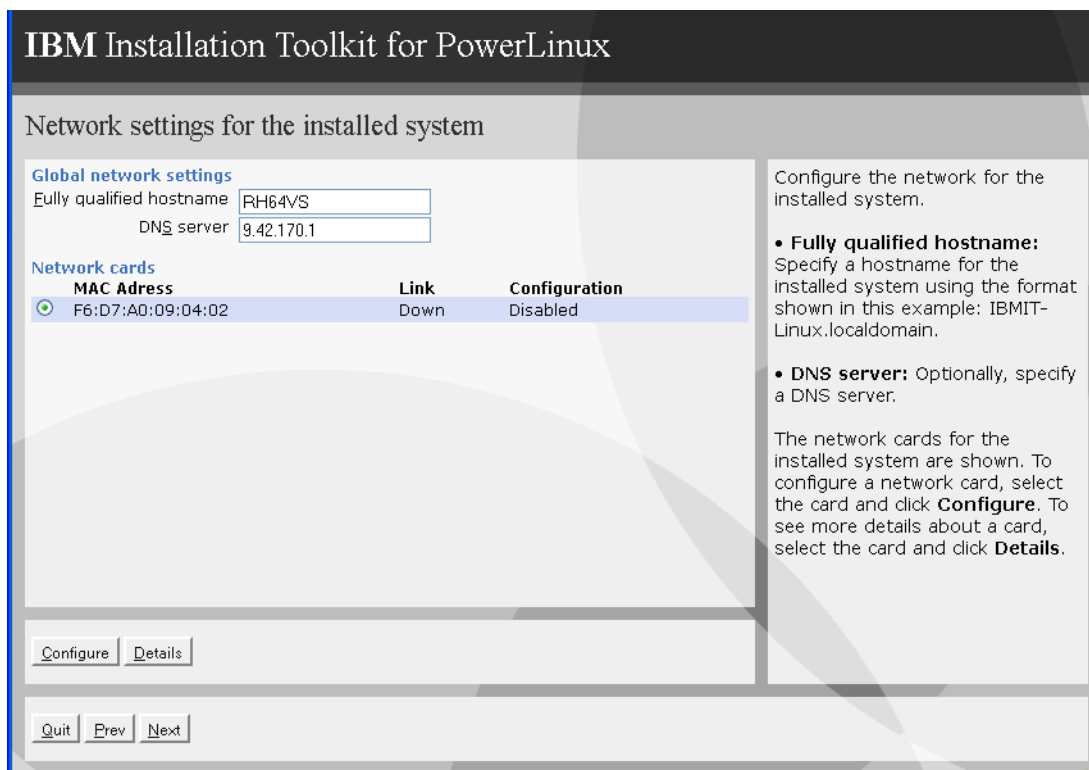

Figure 12-15 Network settings for the installed system
19. In the Network settings page, (see Figure 12-15), enter the host name and DNS server address, select the network card (if there is more than one card listed), then click **Configure** to set the permanent IP address of virtual server after the installation.